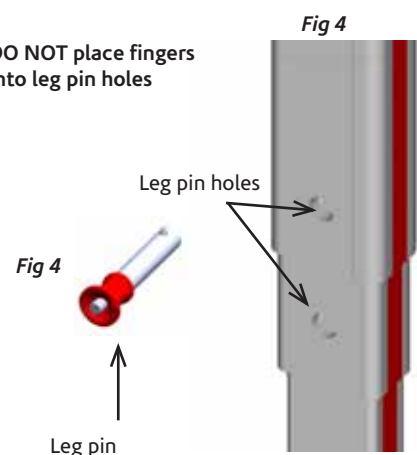

Fig 4
4. Check each leg pin hole on the leg (Fig 4), looking for lower deep indentations on the pin area. If deep (more than 0.5mm) indents are evident, this may be an indication that the leg has been subjected to overloading and should be removed from service.
1. Inspect the leg pin holes (Fig 4) and ensure there is no deformation, deep gouging or obvious damage.